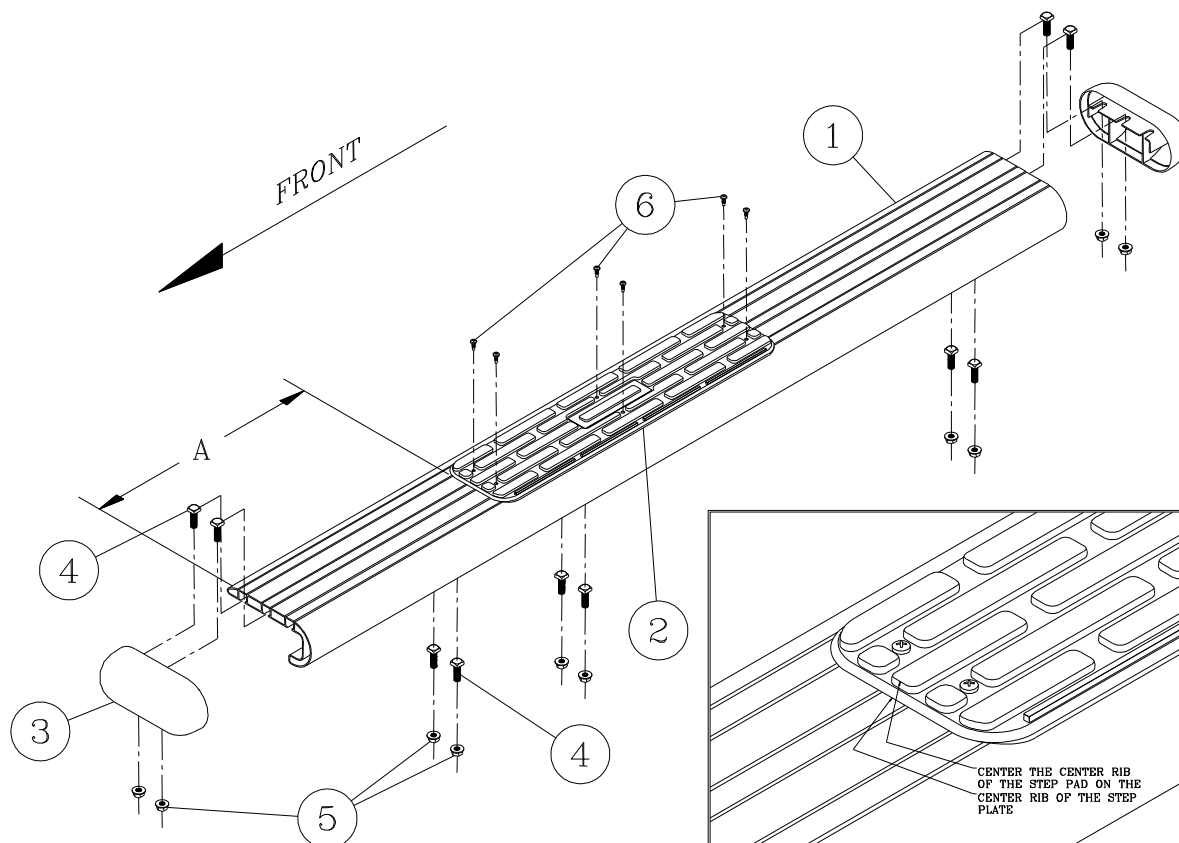

Fig. 1
5. INSTALL THE END CAPS (ITEM #3) AS SHOWN IN *fig. 1* SNUG UP THE NUTS. BE CAREFUL NOT TO DEFORM THE PLASTIC
- 2.1 INSERT 5/16" MULTI-THREAD U-NUT (ITEM #7) INTO THE UPPER HOLES IN THE ROCKER PANEL (SEE FIG. 1).